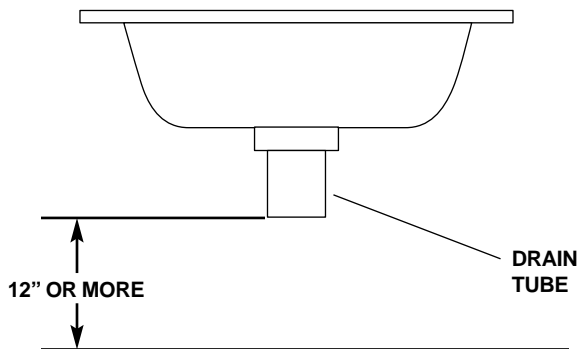

FIGURE 34
1. The vacuum wash station drain requires a minimum of 12-inches (304.8 mm) of vertical space below the end of the drain tube (see *Figure 34*).